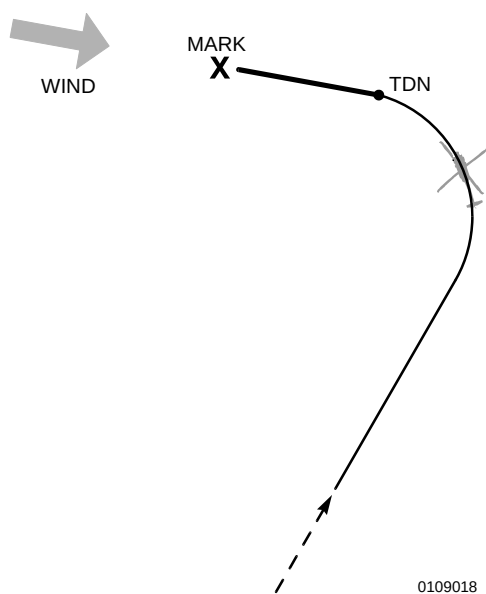

Figure 11-4
Two scenarios are represented in Figures 11-4 and 11-5:
- The MARK point is designated by either using the joystick on the weather radar or by entering its coordinates on the CMA-9000 FMS CDU (Figure 11-4).